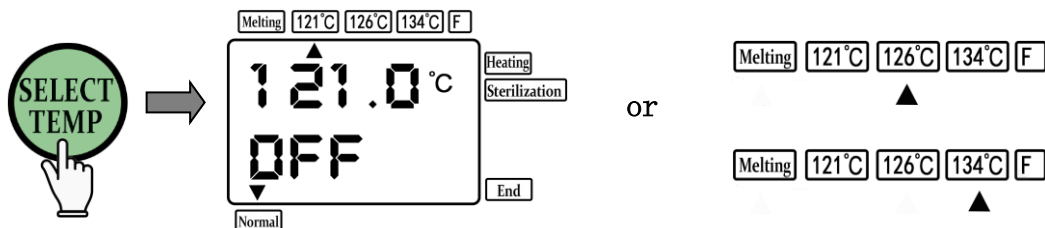

Fig. 10
Open the water filling valve on the left door panel (Fig.8), and remove the top lid of the water filling port. Then add pure water into the water filling port (Fig.9) to make the water level at the running water level (Fig.10). After close the water filling valve, this process finishes.
① Set the sterilization temperature: Select the sterilization cycle according to the sterilization. This product presets three one-key operation modes of "121° C", "126° C", and "134° C". Press "Temperature Selection" key to select the desired One-key temperature (Fig.10). **Note: In the one-key mode, the sterilization temperature has a corresponding sterilization default time, including 121° C-20min, 126° C-15min, and 134° C-20min.** Regarding the melting function, please refer to Chapter 7 "Instructions of Control Panel".